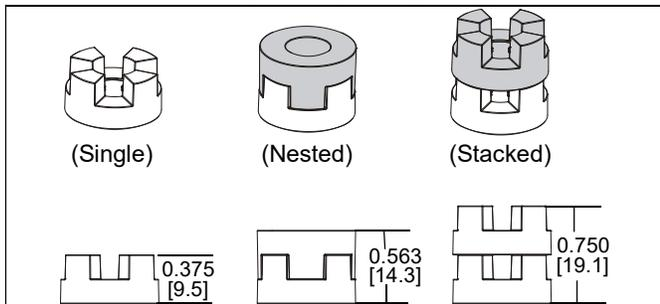

Figure 17
3. Select correct screws, spacers (if necessary) and universal washers from the hardware bag (A-N) and attach brackets (EE) to back of screen. (See Figure 17)
**IMPORTANT ! :** The M8 screws do **NOT** require a washer. Use the universal washer (N) only with M4, M5 and M6 screws.
**NOTE:** The nesting spacers (M) may be used separately, or put two together in different configurations to create different size spacers. (See Figure 17)